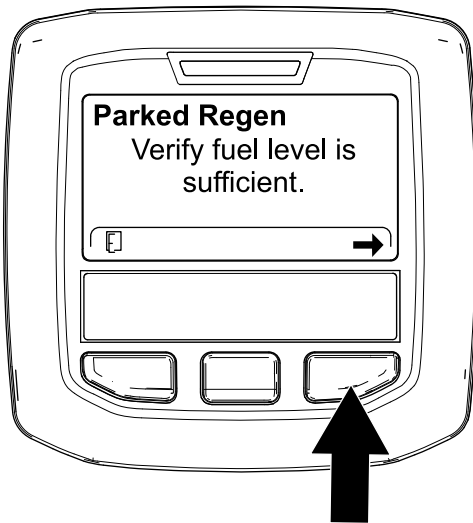

Figure 84
- At the VERIFY FUEL LEVEL screen, verify that you have 1/4 tank of fuel if you are performing the parked regeneration or 1/2 tank of fuel if you are performing the recovery regeneration, and press the right button to continue (Figure 84).